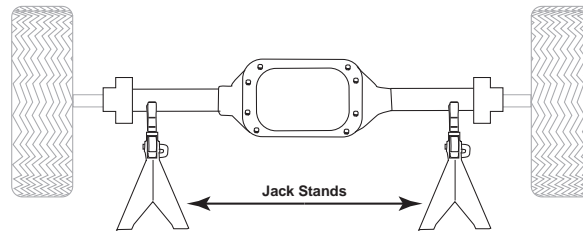

fig. 2
1. Raise the vehicle and support the axle with jack stands, setting the jack stands as wide as possible on the axle (fig. 2).